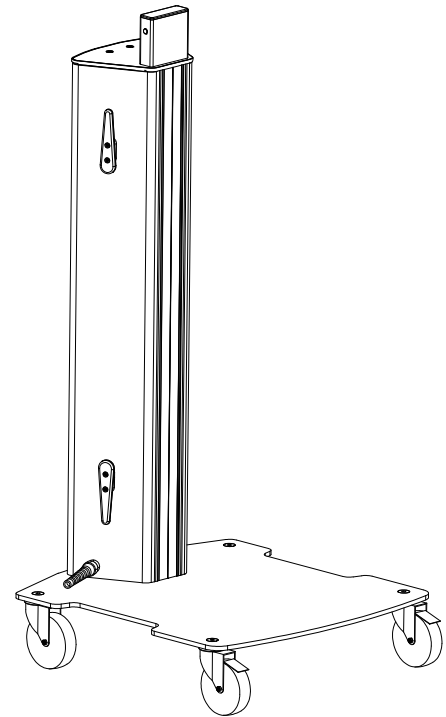

Figure 1. Premium Kineo Cart (3KCP36 & 3KCP48)
- The 3KCP36 and 3KCP48 carts can plug into a 20 Amp receptacle, powering up to four (4) electrical outlets on the cart for screens or other electronic equipment (Figure 1).